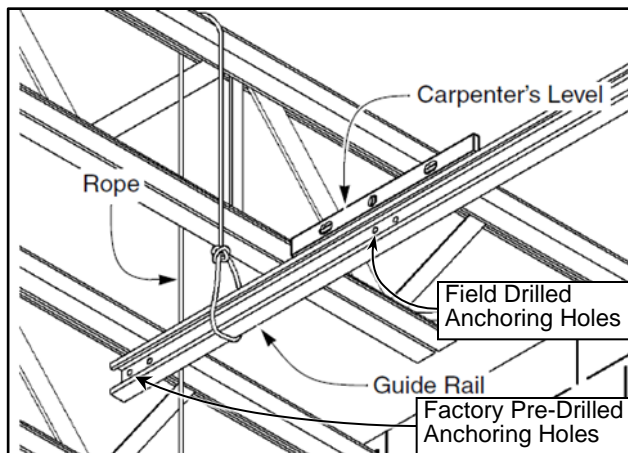

Figure 42
6. Support the Upper Track Assembly ends with rope or a mechanical device. Place a carpenter's level on top of the guide rail and secure the guide rail in a level position. (See Figure 42)